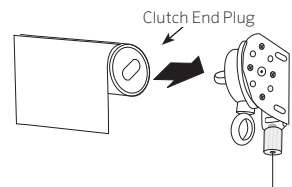

Fig 2
- a. Install the clutch and idle end brackets (Fig 2 & 3).